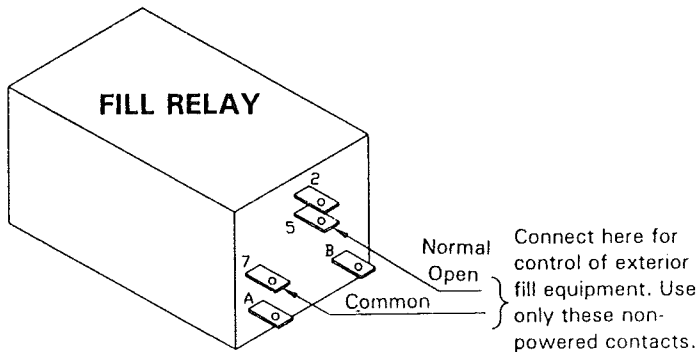

Figure 10 - Fill Relay Non-Powered Contacts
3. The power for the fill equipment motor magnetic starter coil is controlled by the non-powered contacts of the relay provided in the control cabinet. Use terminals #5 and #7. See Figure 10.